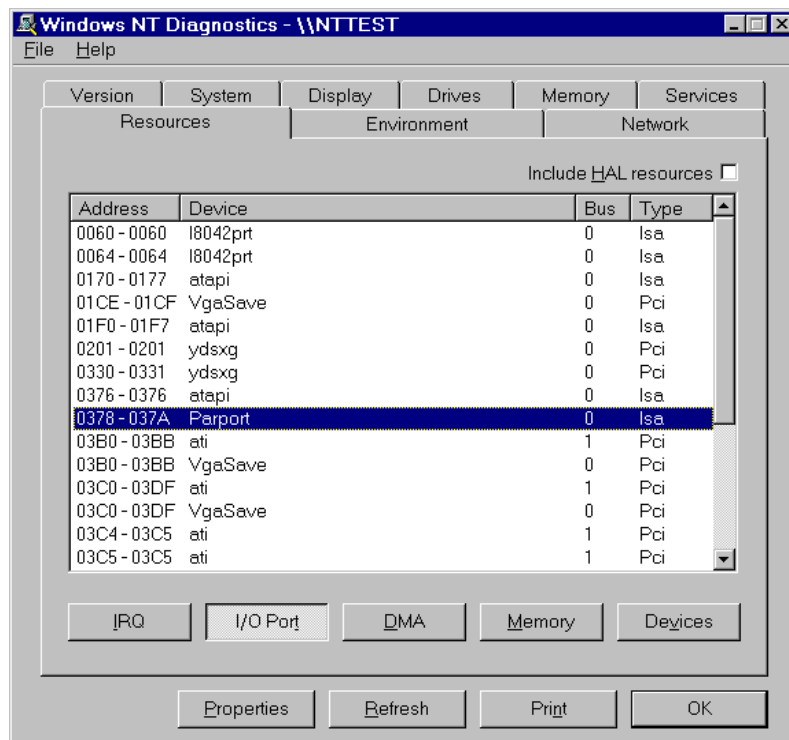

Figure 8. NT Diagnostics Window
2. Select **Administrative Tools**, and click **Windows NT Diagnostics**. The Windows NT Diagnostics window opens (Figure 8).